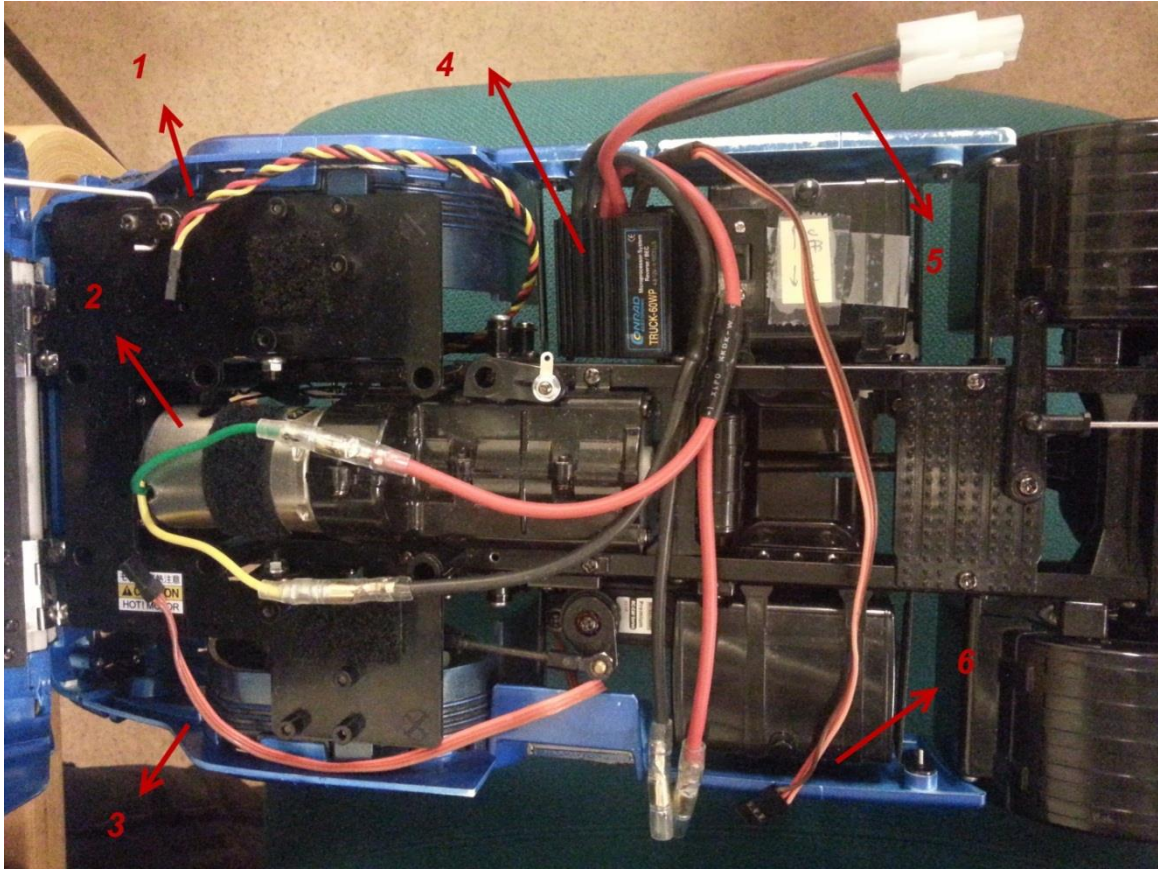

Figure 3: Basic connections in a truck
1. Plug the speed motor (number 6 in figure 3) into the **THRO** port on the receiver.
2. Plug the steering motor (number 3 in figure 3) into the **AILE** port on the receiver.
3. (Optional) Plug the gear shift motor (number 1 in figure 3) into the **RUDD** port on the receiver.